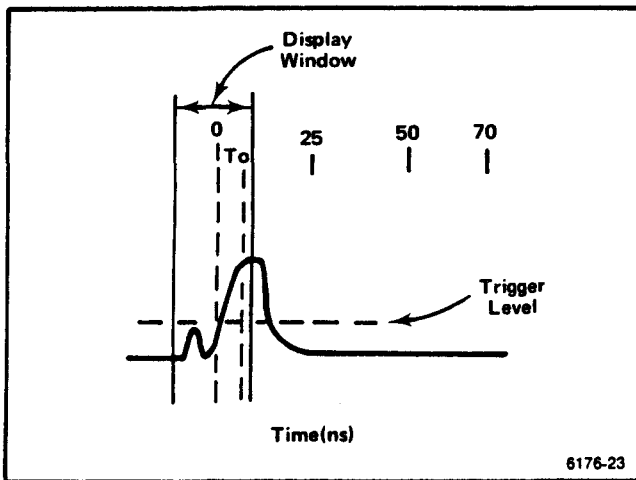

Figure 3-13. Effect of lead time in moving display window.
Random sampling permits display of the leading edge, or any other part, of the input signal shown in Figure 3-13. This is possible even when observing fast-rise, short duration pulses, and when using either internal or external trigger sources (EXT modes of triggering give better results in Random Sampling).
Not only the input signal leading edge, but also vertical inputs prior to the arrival of the triggering signal can be displayed. An example is shown in Figure 3-13, where the triggering is set for the (+) slope and at a triggering level above that of the first pulse. The pulse occurring prior to the trigger point is displayed.
**Ratemeter.** The Ratemeter provides an output that permits the display window to include time prior to arrival of a signal at the sampling head as shown in Figure 3-13. The Ratemeter effectively determines the time between triggers. Two Ratemeter inputs are needed to determine this time